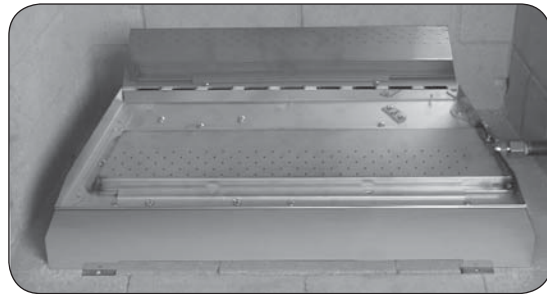

Fig. 15-1 Front cover installed
- Remove the protective coating off of the reflective rear panel and front cover. **DO NOT** use a sharp object to remove coating. Install the front cover onto the front of the burner system (see Fig. 15-1).